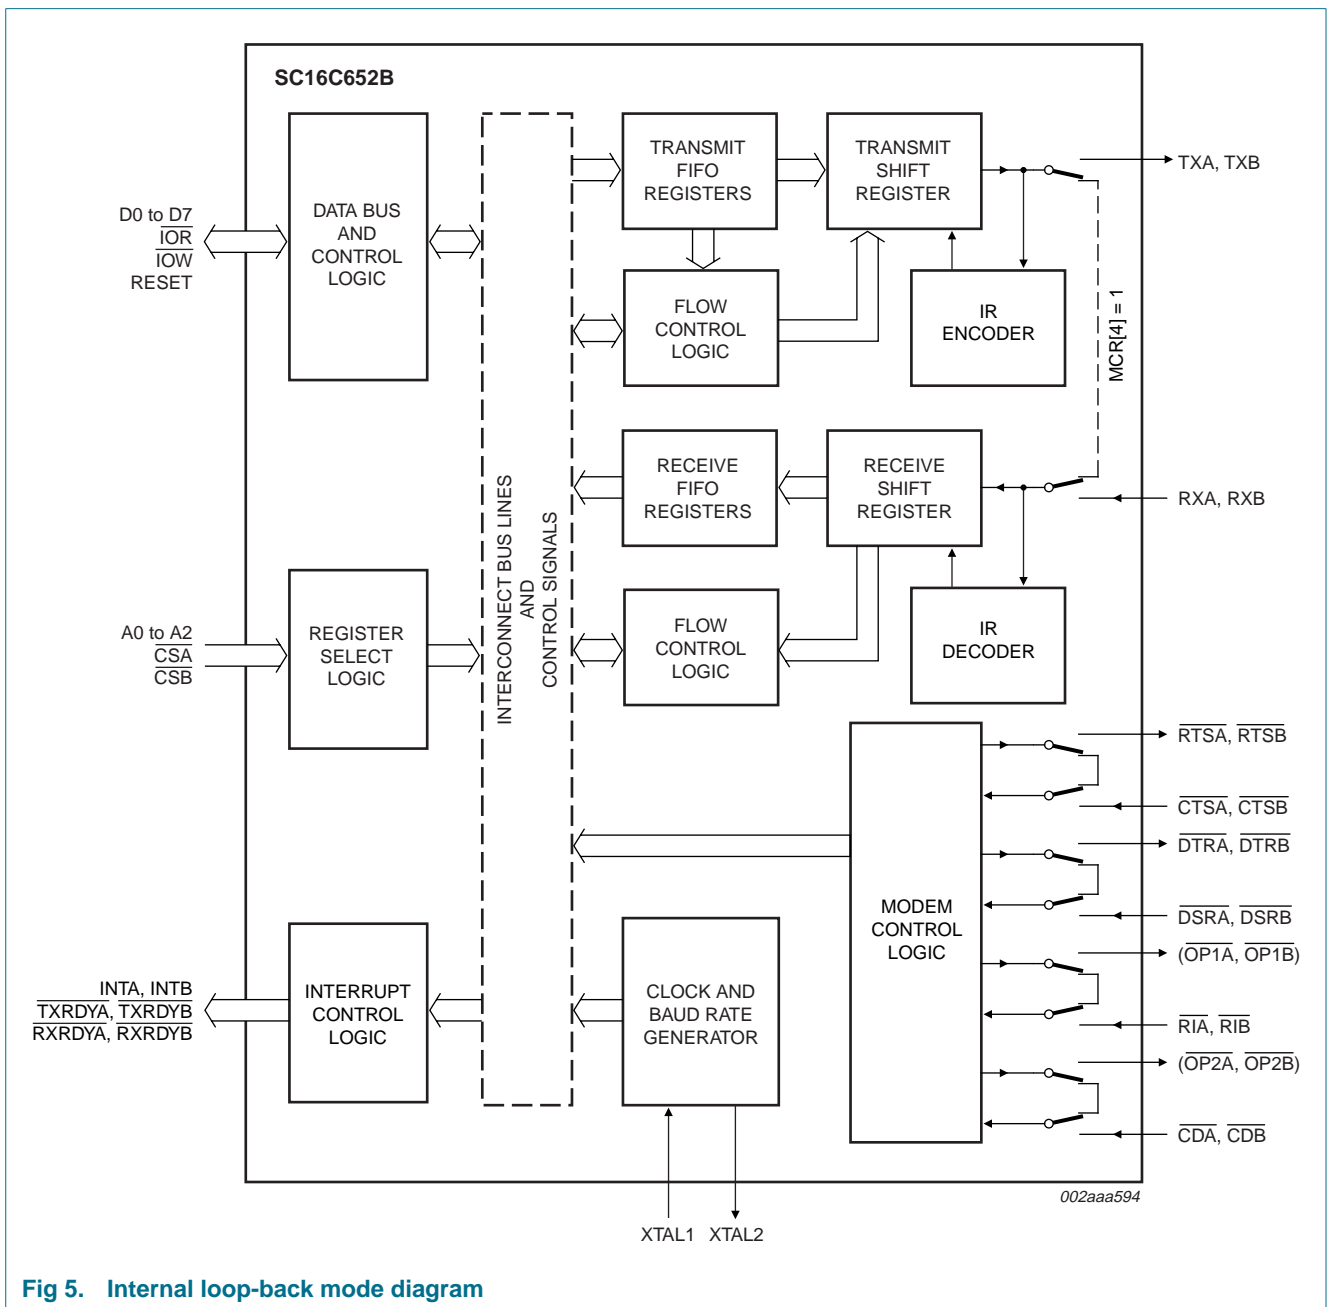

Fig 5. Internal loop-back mode diagram
The internal loop-back capability allows on-board diagnostics. In the loop-back mode, the normal modem interface pins are disconnected and reconfigured for loop-back internally (see Figure 5). MCR[3:0] register bits are used for controlling loop-back diagnostic testing. In the loop-back mode, the transmitter output (TX) and the receiver input (RX) are disconnected from their associated interface pins, and instead are connected together internally. The  $\overline{CTS}$ ,  $\overline{DSR}$ ,  $\overline{CD}$ , and  $\overline{RI}$  are disconnected from their normal modem control inputs pins, and instead are connected internally to  $\overline{RTS}$ ,  $\overline{DTR}$ , MCR[3] ( $\overline{OP2}$ ) and